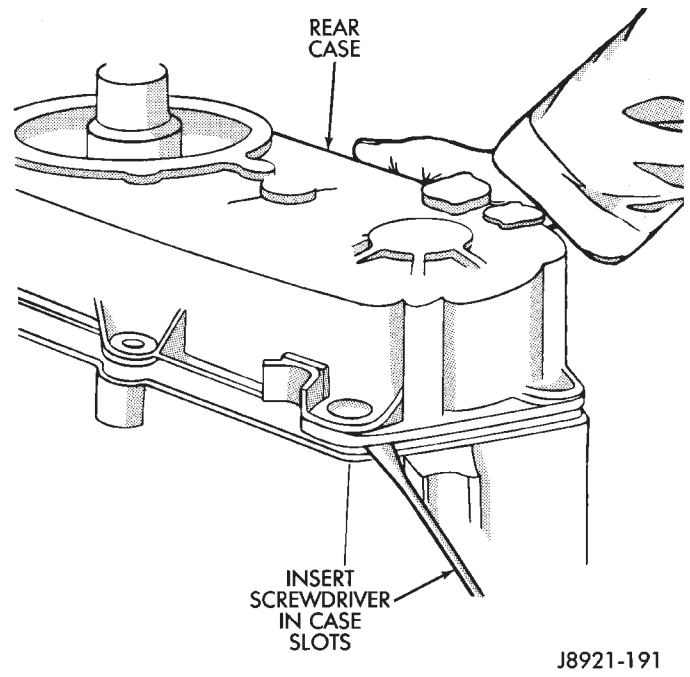
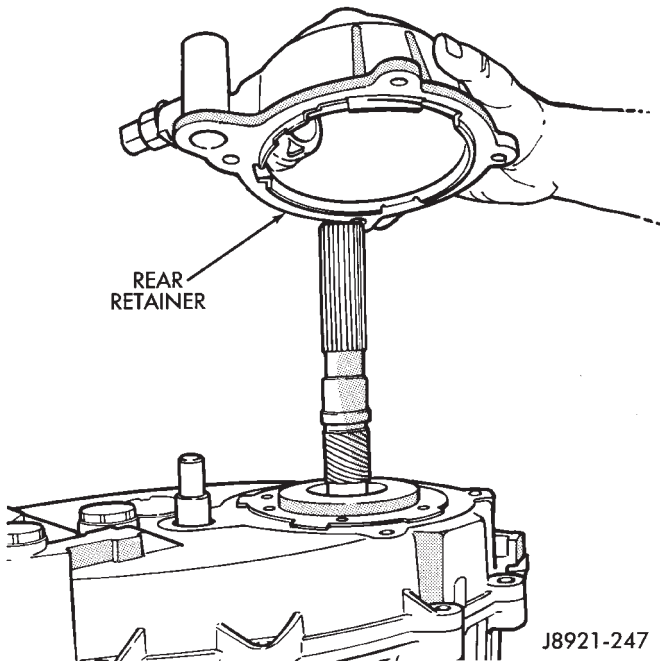

Fig. 5 Loosening Rear Case
Fig. 4 Rear Retainer Removal
(9) Lift rear retainer up and off case and mainshaft (Fig. 4).
(10) Remove bolts attaching rear case to front case. Retain bolts and the washers.
(11) Loosen rear case with two screwdrivers (Fig. 5). Insert screwdrivers into slots cast in case ends. Then gently pry upward to break sealer bead.